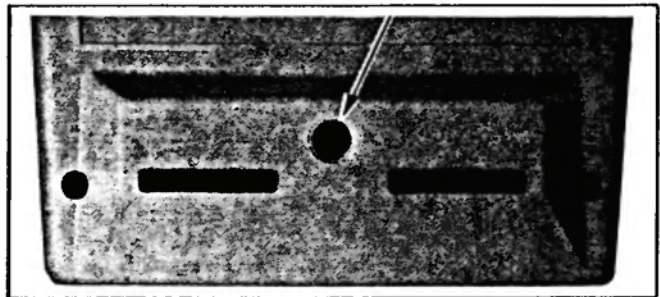

Figure 3-2. Battery Voltage Access Hole
- c. Insert the V -  $\Omega$  test probe into the access hole as shown in Figure 3-2.